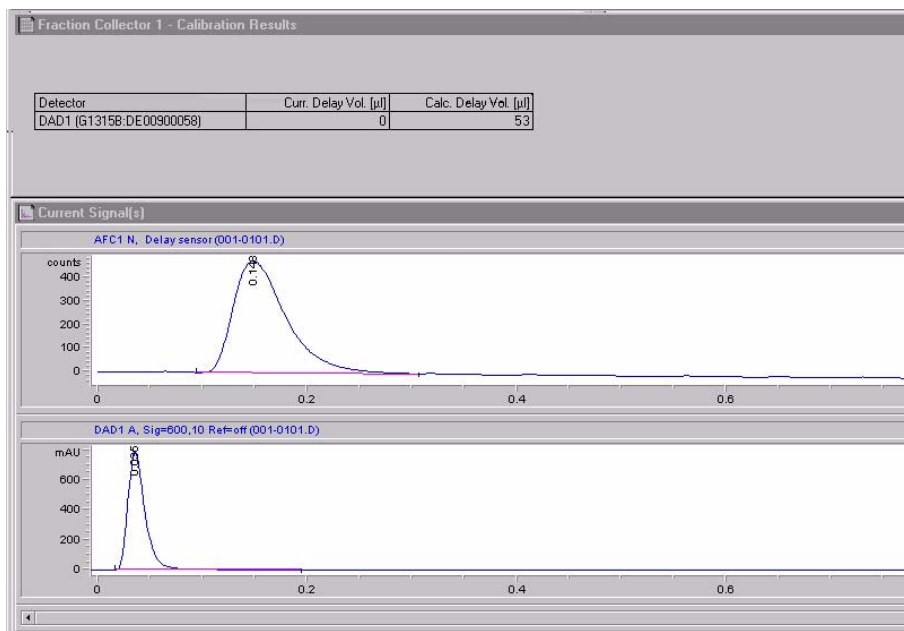

Figure 6 Delay Calibration Results Panel
- When the calibration run has finished, click OK. The Calibration Results panel (see Figure 6) is displayed.